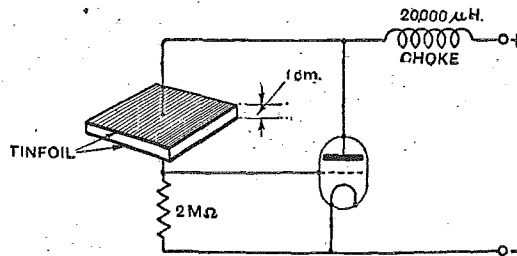

Fig. 18.—An alternative method of controlling a valve oscillator.
G. W. Pierce has devised a second method of making the crystal oscillate (Fig. 18). He employs a large slab of quartz and sticks sheets of tin foil on opposite faces. In his method he employs the natural vibrations of the crystal in the direction of the thickness, and uses an ordinary valve.